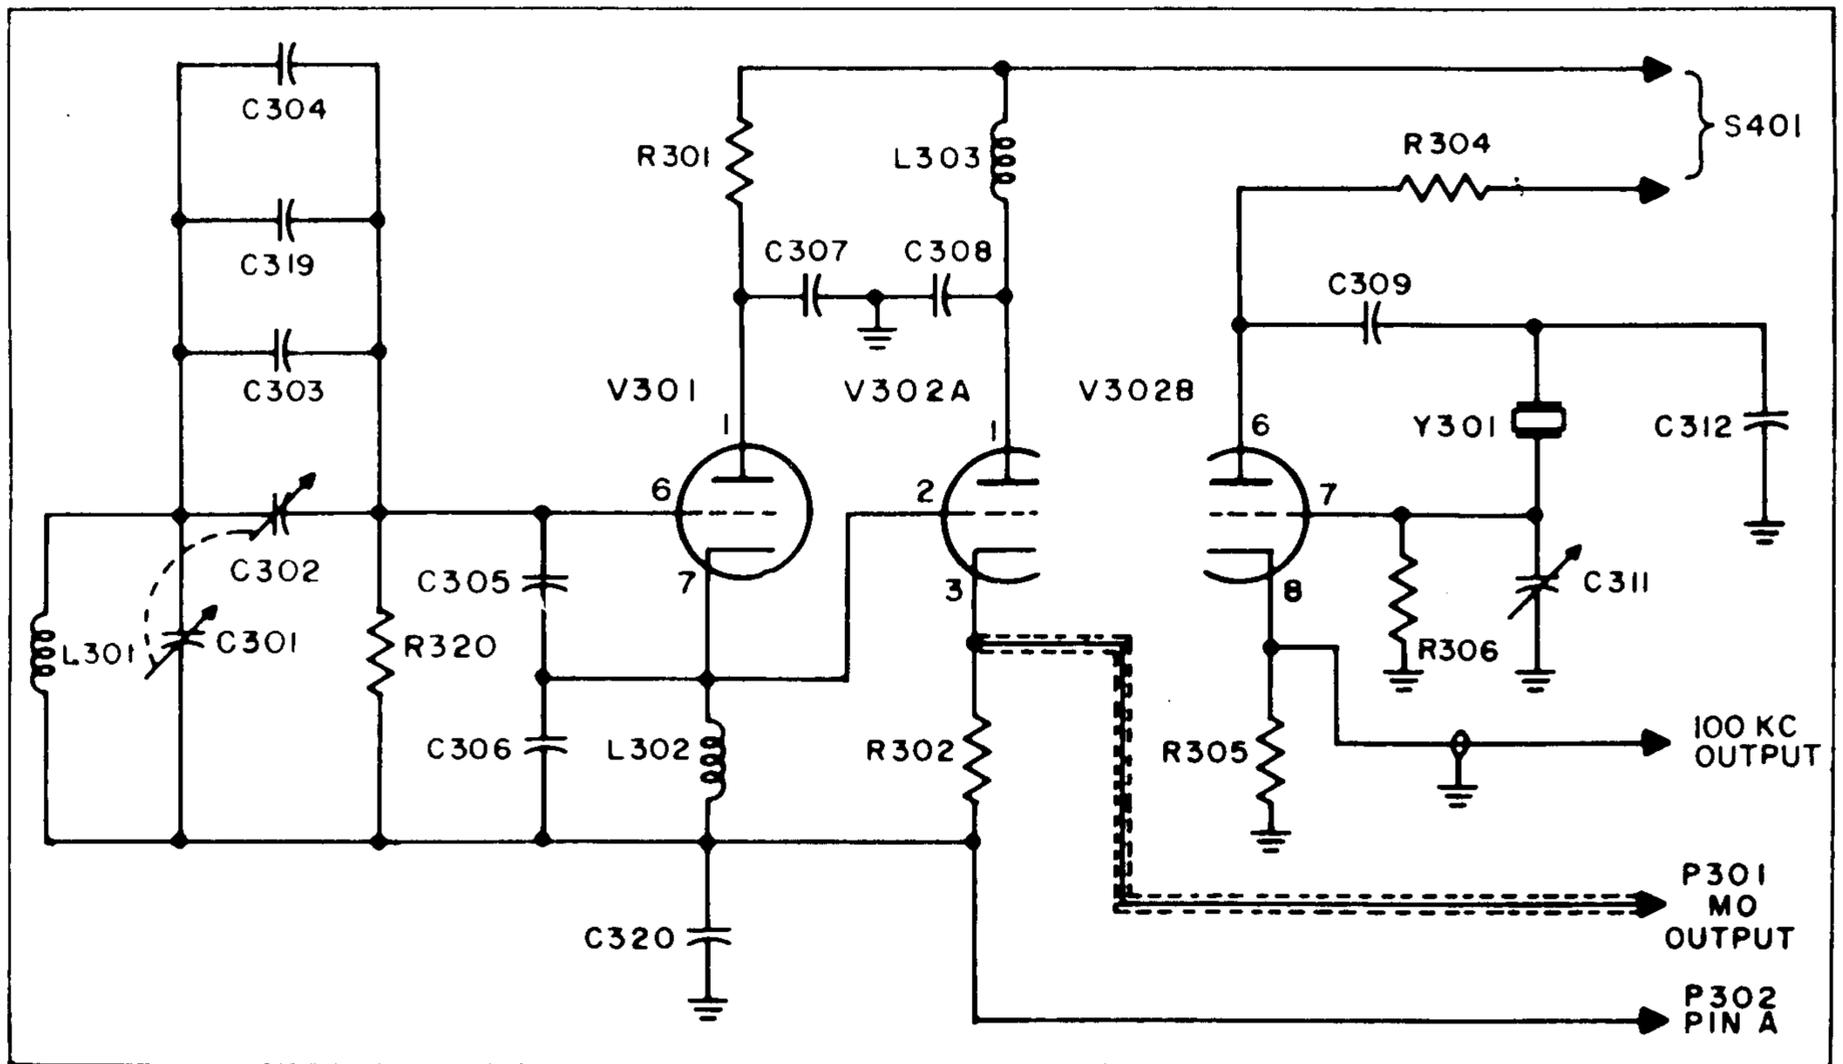

Figure 4-3. Master and Calibrator Oscillators, Simplified Schematic Diagram
(a) The master oscillator stage uses triode V301 in a Colpitts oscillator circuit. (See figure 4-3.) The tuned grid circuit consists of L301, tuning capacitors C301 and C302, and padders C303, C304 and C319. The tank circuit is effectively tapped by C305 and C306 which parallel L302. The load is in the cathode circuit and the plate is placed at rf ground by C307. The output of the oscillator tube is taken from the cathode and applied to the grid of cathode follower V302A.
(2) CATHODE FOLLOWER. - The cathode follower isolation stage V302A is provided at the output of the oscillator stage to reduce the effect of load variation on the oscillator frequency. (See figure 4-3.) This stage is located in the temperature-controlled oven for added stability and consists of V302A, plate decoupler L303 and plate bypass C308. The cathode output developed across R302 is connected to the MO output connector P301.
(a) The second half of triode V302 is used for the 100-kc calibration oscillator. (See figure 4-3.) Crystal Y301 is placed in the temperature-controlled oven with V302B to insure stability. Plate voltage is applied to V302B by rotation of the OSCILLATOR switch S401 to CAL position. In all other positions of the switch, plate voltage is removed from V302B, thus disabling it.